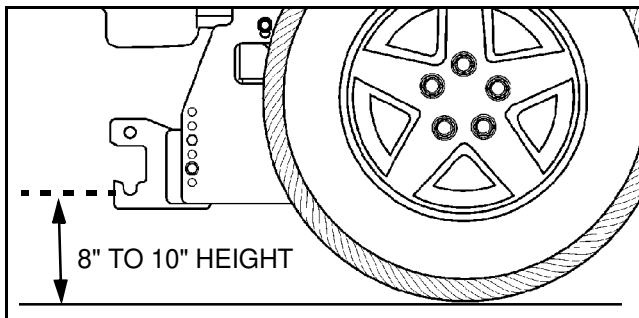

Figure 5
4. Position the Vehicle Center Member (#1) between the Side Mount Weldments (#2 and #3) to allow for an 8" to 10" height between the VCM and the ground. (See Figure 5.)